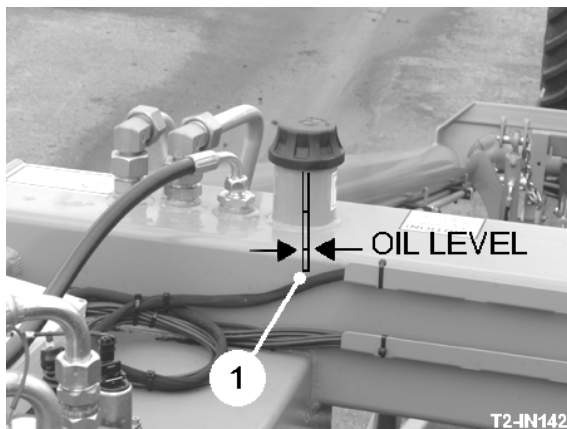

Fig 35
The hydraulic oil should be carefully monitored. The cold oil level should be kept to the lower mark on the dipstick (item 1, fig 35) with the dipstick screwed fully in. Maintain the level by topping up or refilling with Esso Nuto 46 Hydraulic Oil. The reservoir holds approximately 410 litres. Should a high water content becomes apparent or a cloudiness in the oil, the hydraulic oil should be changed.